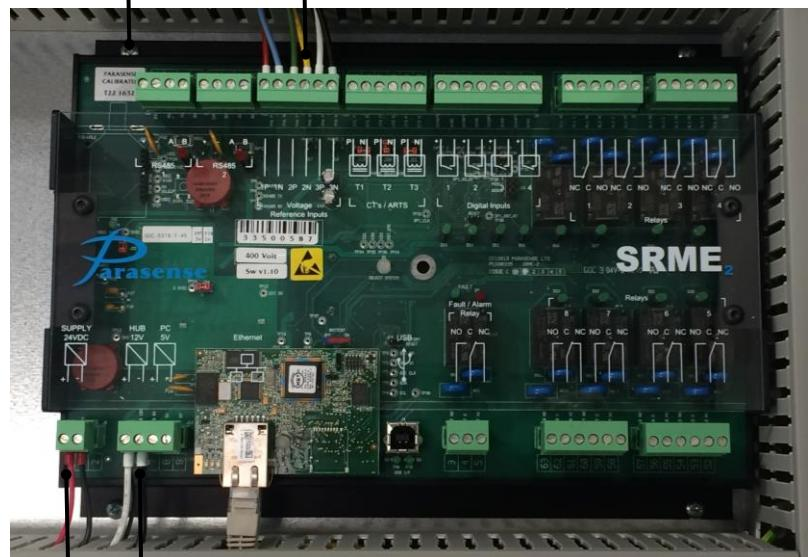

Fig 3.1
Disconnect the mains power supply cables (2), cables to the hub and door mounted PC (3) then any other wired in connectors (4). Unscrew the four screws holding the Network Module in position (5). The module can now be removed from the enclosure (see Figure 3.1).